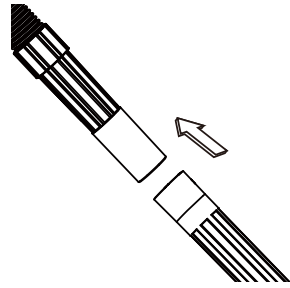

Fig. 6
13. Choose the desired accessory and insert onto the end of the hose 15. Fig. 6.